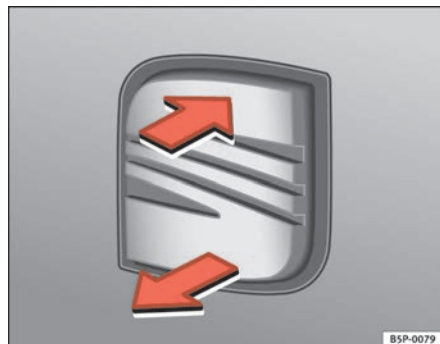

Fig. 65 Tailgate: opening from the outside
- Pull on the release lever and lift the tailgate ⇒ fig. 65. The tailgate will then open.